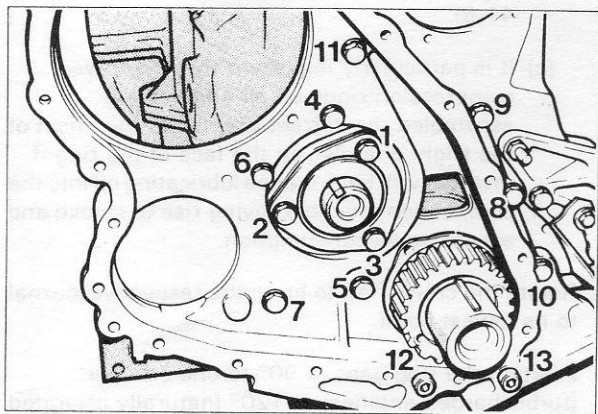

Fig. 37 - Timing Gear Housing Bolt Tightening Sequence
29. Smug the camshaft thrust plate bolts to secure the housing in position then tighten all the bolts in the sequence shown to the specified torque (Fig. 37).